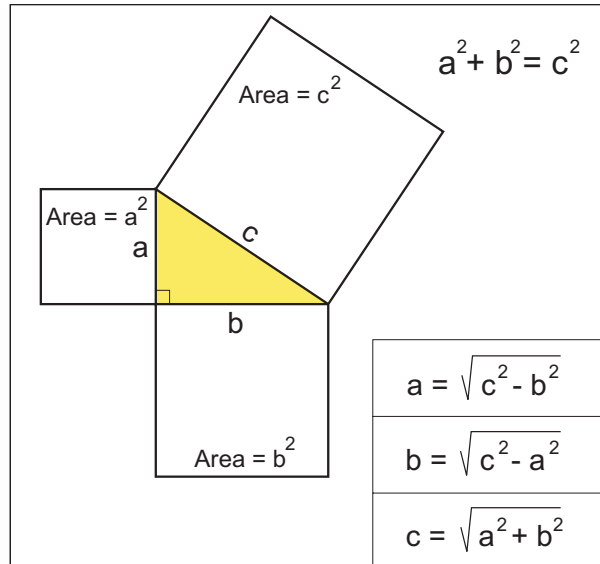

Figure 53-21
*Pythagorean Theorem* is used in CNC programming to find the length of *any* side in a right triangle, providing the *two other sides* are known. Figure 53-21 shows calculation of each side of a right triangle, based on two known sides: